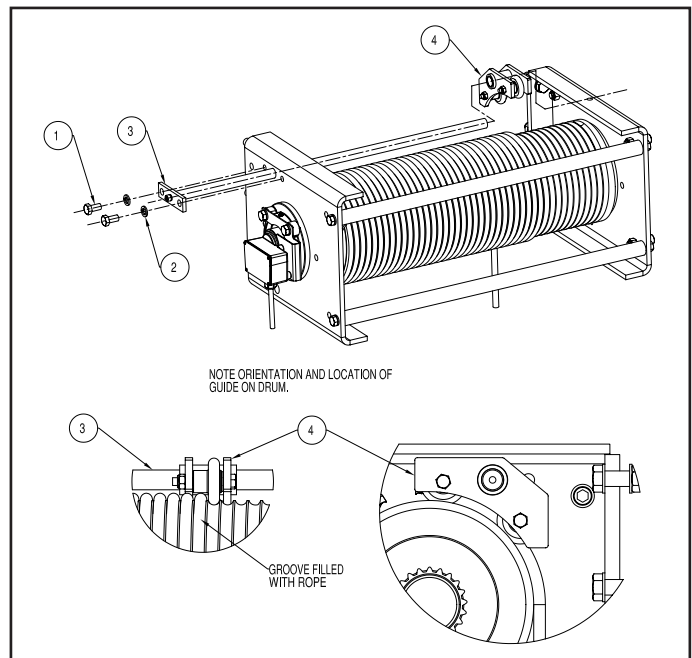

Figure 5-3b. Rope Guide Assembly ('D' Frame)
- (4) Remove the split plastic shroud (Item 2) from the drum. When reassembling the rope guide, be sure the plastic shroud (Item 2) fits snugly in the rope guide body groove.
- (5) Thoroughly clean and inspect all components.
- (6) Follow steps in reverse to reassemble. Be sure to regrease the rope guide with **MPG** (Paragraph 4-7), after assembling.
- c) **Disassembly for 'D' Frame.** Refer to Fig. 5-3b. For further assistance in locating components, refer to the parts list in Section IX.
- (1) Remove hex head cap screws and lock washers (Items 1 and 2). Pull back on drum frame rod assembly (Item 3) until the free end pulls free of the gearcase end drum bracket.
- (2) Slide the rope guide assembly (Item 4) off the end of the drum frame rod and remove from drum groove area. Note the required orientation of the rope guide assembly for re-installation.
- (3) Thoroughly clean and inspect all components.
- (4) Follow steps in reverse to re-install, paying attention to orientation and making sure to seat the assembly into the correct drum groove. Be sure to regrease the rope guide with MPG (Paragraph 4-7), after assembling.